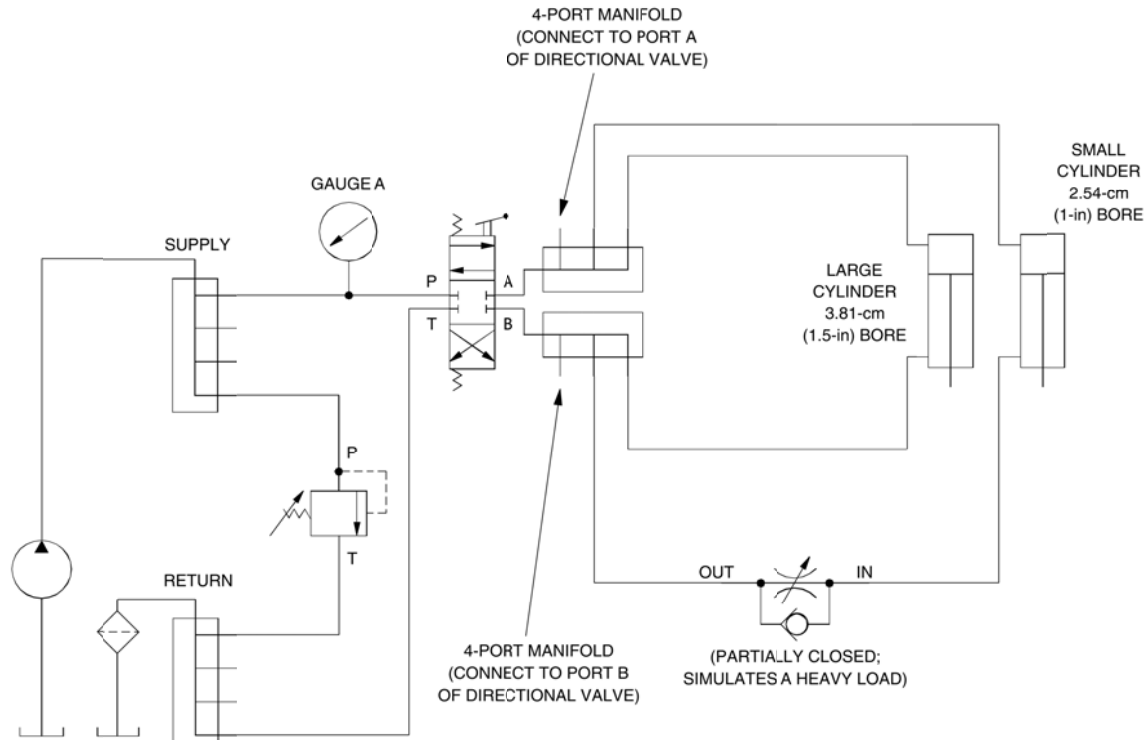

Fig.4. Cylinders in parallel with a heavy load on the small cylinder.
- Modify your circuit connections in order to place the loading device (Flow Control Valve) on the small cylinder [2.54-cm (1-in) bore], as Fig.4. shows.